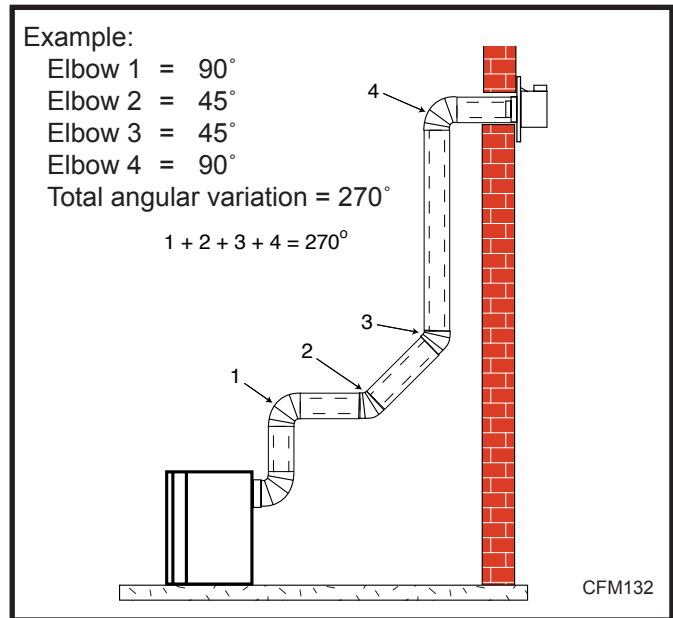

Fig. 23 Maximum number of elbow degrees.
- The maximum number of 45° elbows permitted per side wall installation is two (2). These elbows can be installed in either the vertical or horizontal run.
- The maximum number of elbow degrees in a system is 270°. (Fig. 23)